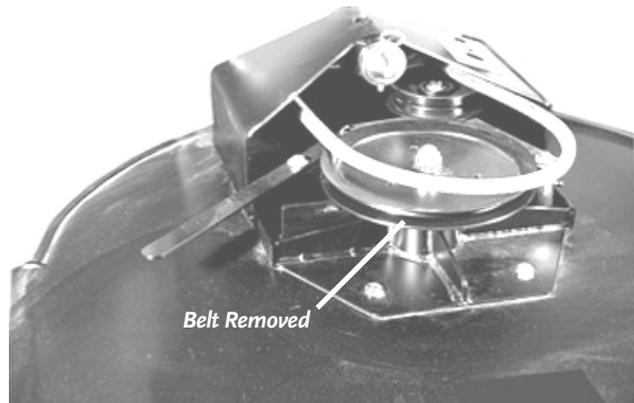

Figure 6
3. Remove the Belt from the Deck Pulley and the ATM Engine Pulley (*Figure 6*).